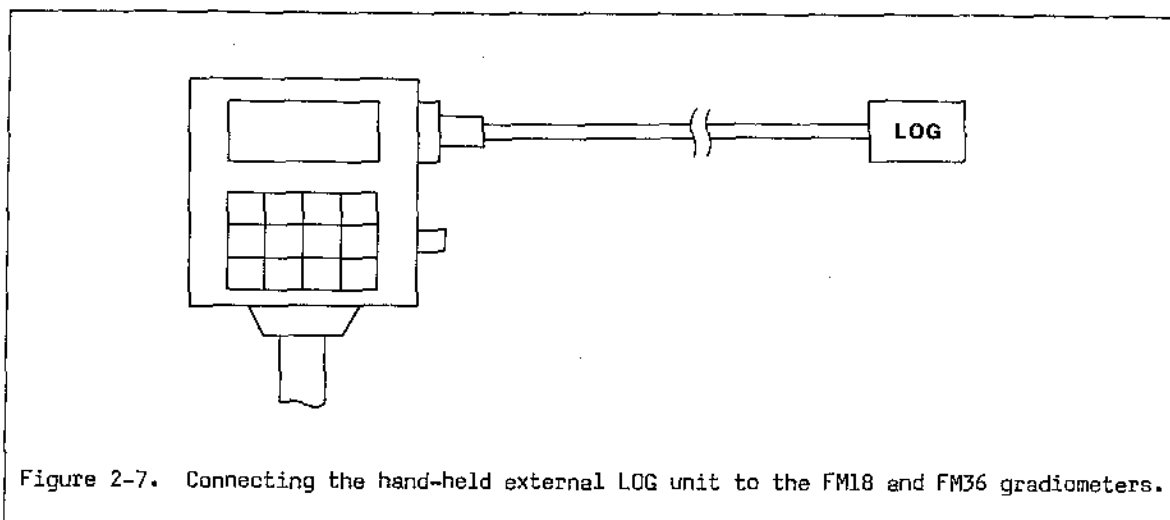

Figure 2-7. Connecting the hand-held external LOG unit to the FM18 and FM36 gradiometers.
The FM18 and FM36 only require the hand-held external LOG unit to be connected - figure 2-7. The lead of this unit plugs into the connector labelled as (3) in figure 2-2. The waterproof sealing caps must first be undone and this may most easily be achieved by gripping the strap and instrument/cable with one hand and gripping and turning the 'turret' extension of the cap with the other hand. The connector (flying socket) of the hand-held external LOG unit should then be inserted into the FM connector (plug) - there is a small locating pin inside the plug to ensure correct mating. Screw the outer retaining ring into place. Note that it is better to align the fluxgate sensors prior to assembling the gradiometer for field use - consult section 3-5 for alignment instructions.